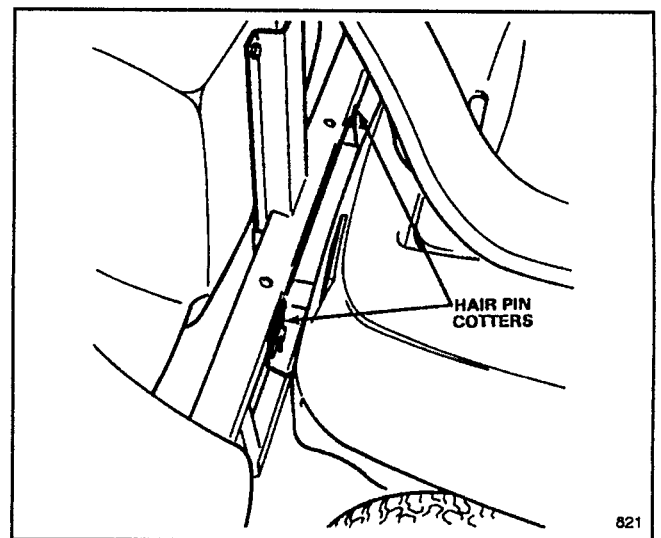

Figure 8
- Rotate grass catcher up so mounting pins line up with mounting holes in rider or tractor mounting bracket or rider stand bars. Push pins through holes and retain with hairpin cotters (Fig. 8).